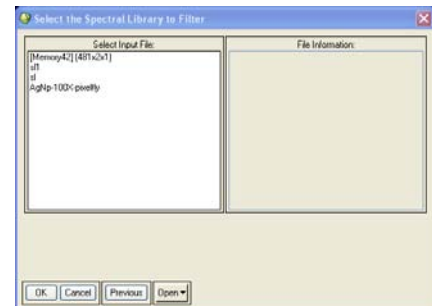

Figure 2. Spectral Library to Filter box
3. The Select the Spectral Library to Filter dialogue box opens. The user selects a spectral library file from the input list or opens a new one from this window using the Open tab (see Figure 2). This file should contain all of the spectra from the analysis, including both the desired and undesired spectral curves.
1. This example will remove two spectra, deemed "undesirable" from a spectral library. Once the Select the Spectral Library to Filter dialogue box is open, select the file sl. If the input file isn't in the list click open and then select the file. The input file sl contains four spectra (see Figure 2), located in the ENVI 4.8 Examples folder. Click OK